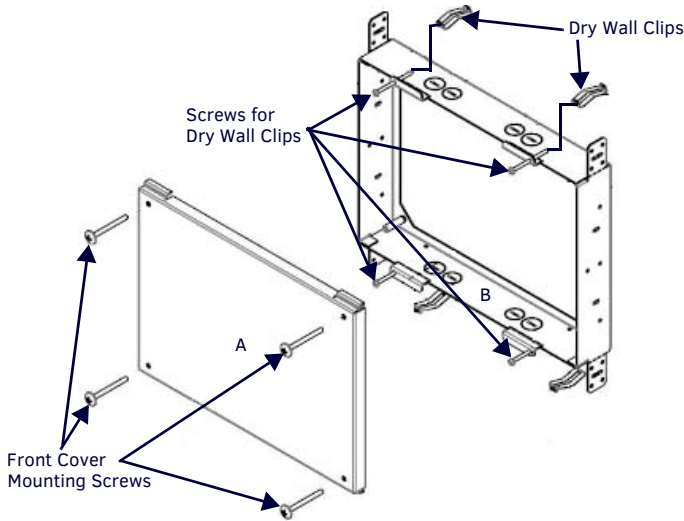

FIG. 1 CP-MVP-WDS9 ROUGH-IN BOX - WITH FRONT AND REAR COVERS
- Remove the rough-in box cover (A in FIG. 1) before installation of the Rough-In Box (B).
NOTE: The front cover of the CB-MVP-WDS9 (A in FIG. 1) should be installed after the appropriate wiring is pulled to the Rough-In Box. The cover should then be removed prior to the installation of the MVP-WDS-9 back box and discarded.